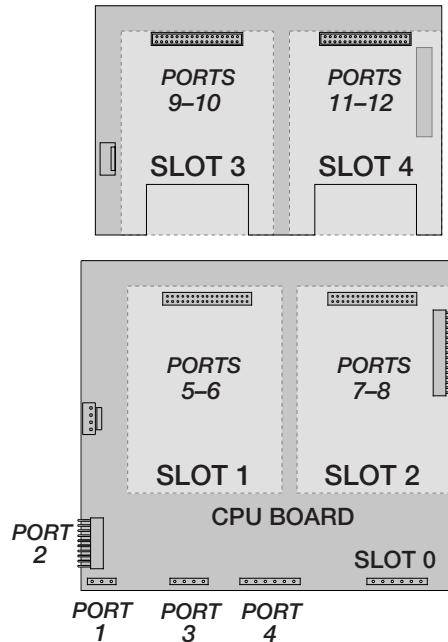

Figure 3-15. Serial Port Assignments, Two-Card Expansion Board
*Example: In a system with a two-card expansion board, port assignments are reserved as illustrated in Figure 3-15. If the only serial card installed in this system is in SLOT 4 of the expansion board, the system consists of serial ports 1-4 (on the CPU board) and ports 11-12.*